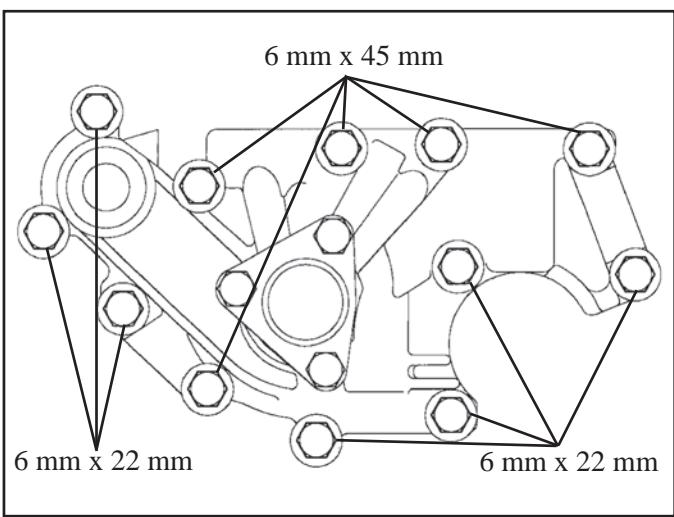

Figure 155
- Use Figure 155 to place the bolts in their correct location. There are seven 8 mm head bolts that measure 6 mm x 22 mm and five 8 mm head bolts that measure 6 mm x 45 mm (See Figure 155).